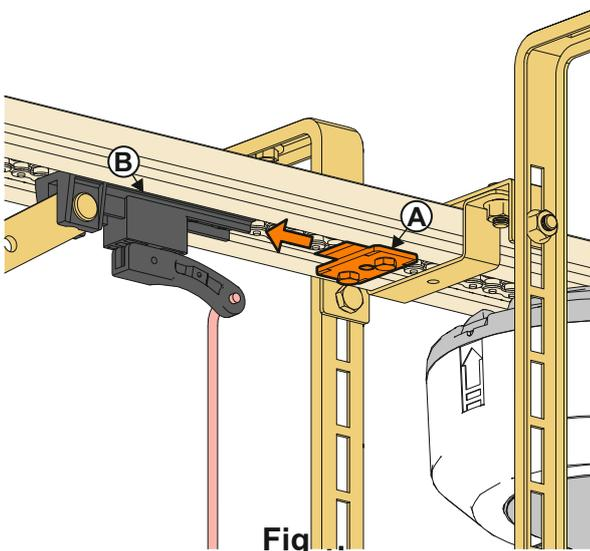

Fig. 2
5.2.3- Adjust and tighten the rear mechanical stop (A), about 10 mm from carriage (B) shown in figure 2.